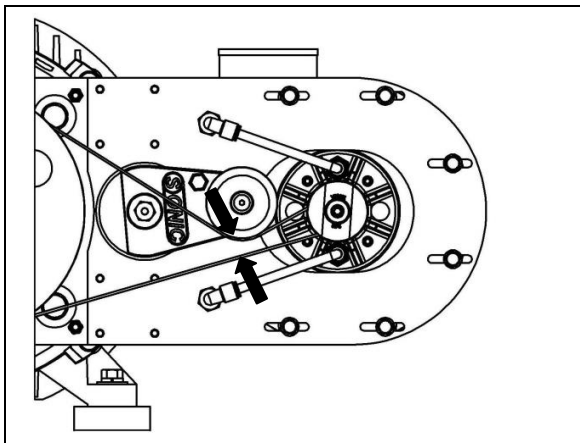

Figure 21 – Verify Belt Gap
10. Verify that the belt gap is approximately $\frac{3}{4}$ inch $\pm 1/16$ inch. (See Figure 21)